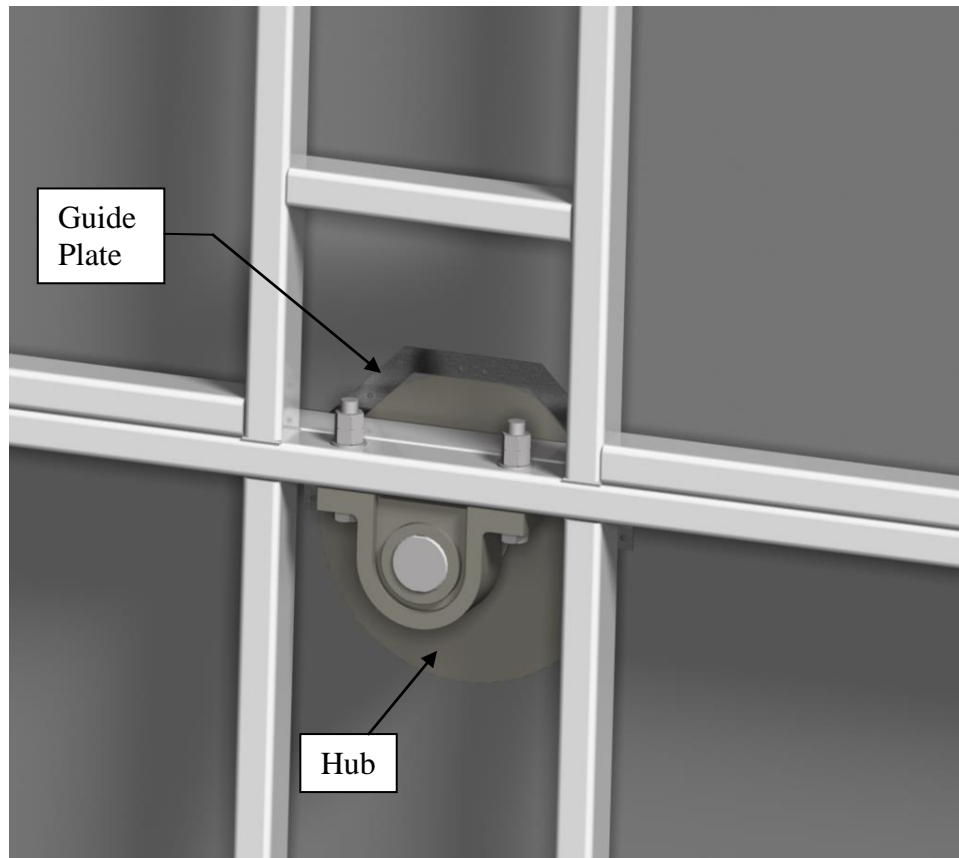

Figure 5
- The guide plates installed on the top half of the rotor will overlap the central hub attached to the lower half, helping ensure the two halves mate up correctly (see Figure 5).